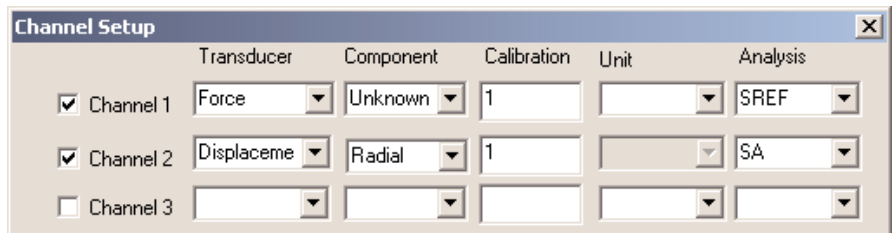

Figure 3: Channel Setup Dialog Box with Appropriate Inputs for Parallel Seismic Testing
- 7. **Channel Setup:** is the place to turn on the channels used in data acquisition. A dialog box similar to Figure 3 should appear on your screen (supporting up to 16 channels) for channel setup. The channels that are planned for use in data acquisition need to be checked. Their transducers, components, calibration and unit need to be set correctly. Once the parameter setup is complete, data parameters should be saved by going to "Acquisition/Save Data Parameter" to ensure that these parameters can be loaded with the SHM program.